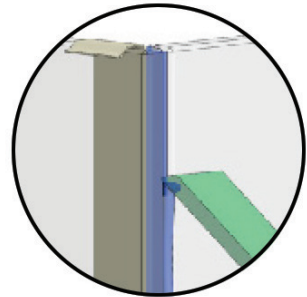

FIG 13.
- Spray channels and glass with slightly soapy water then use spatula provided to clean off excess silicone (FIG 13). Repeat this process 3 times. Use minimal water then wipe off with paper towels.